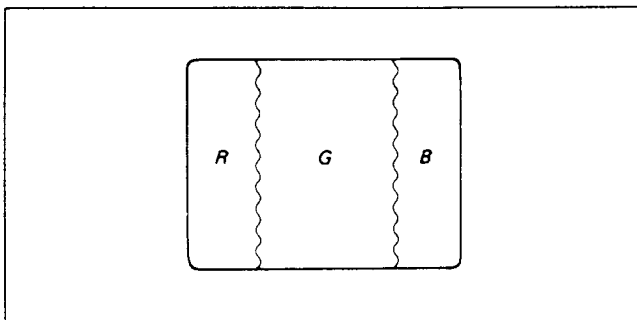

Fig. 2-2-1
- 5) Move the DY backward and make a coarse adjustment with the purity magnet so that the green raster is at the screen center. (see Fig. 2-2-1)